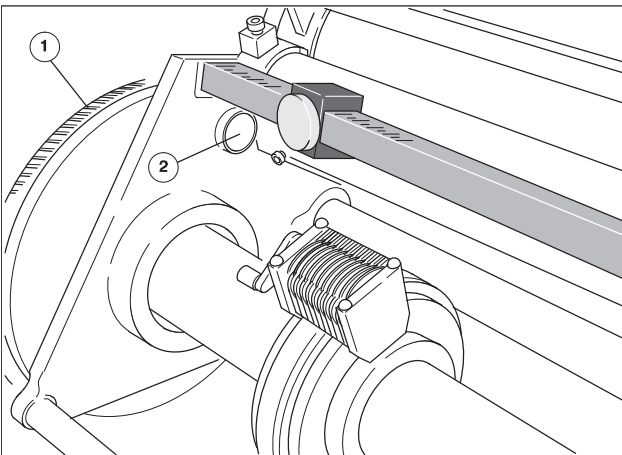

Fig. 42 Locking the drive gear into place
3. Fix the position of the drive gear (Fig. 42/1) with the brass screw (Fig. 42/2).